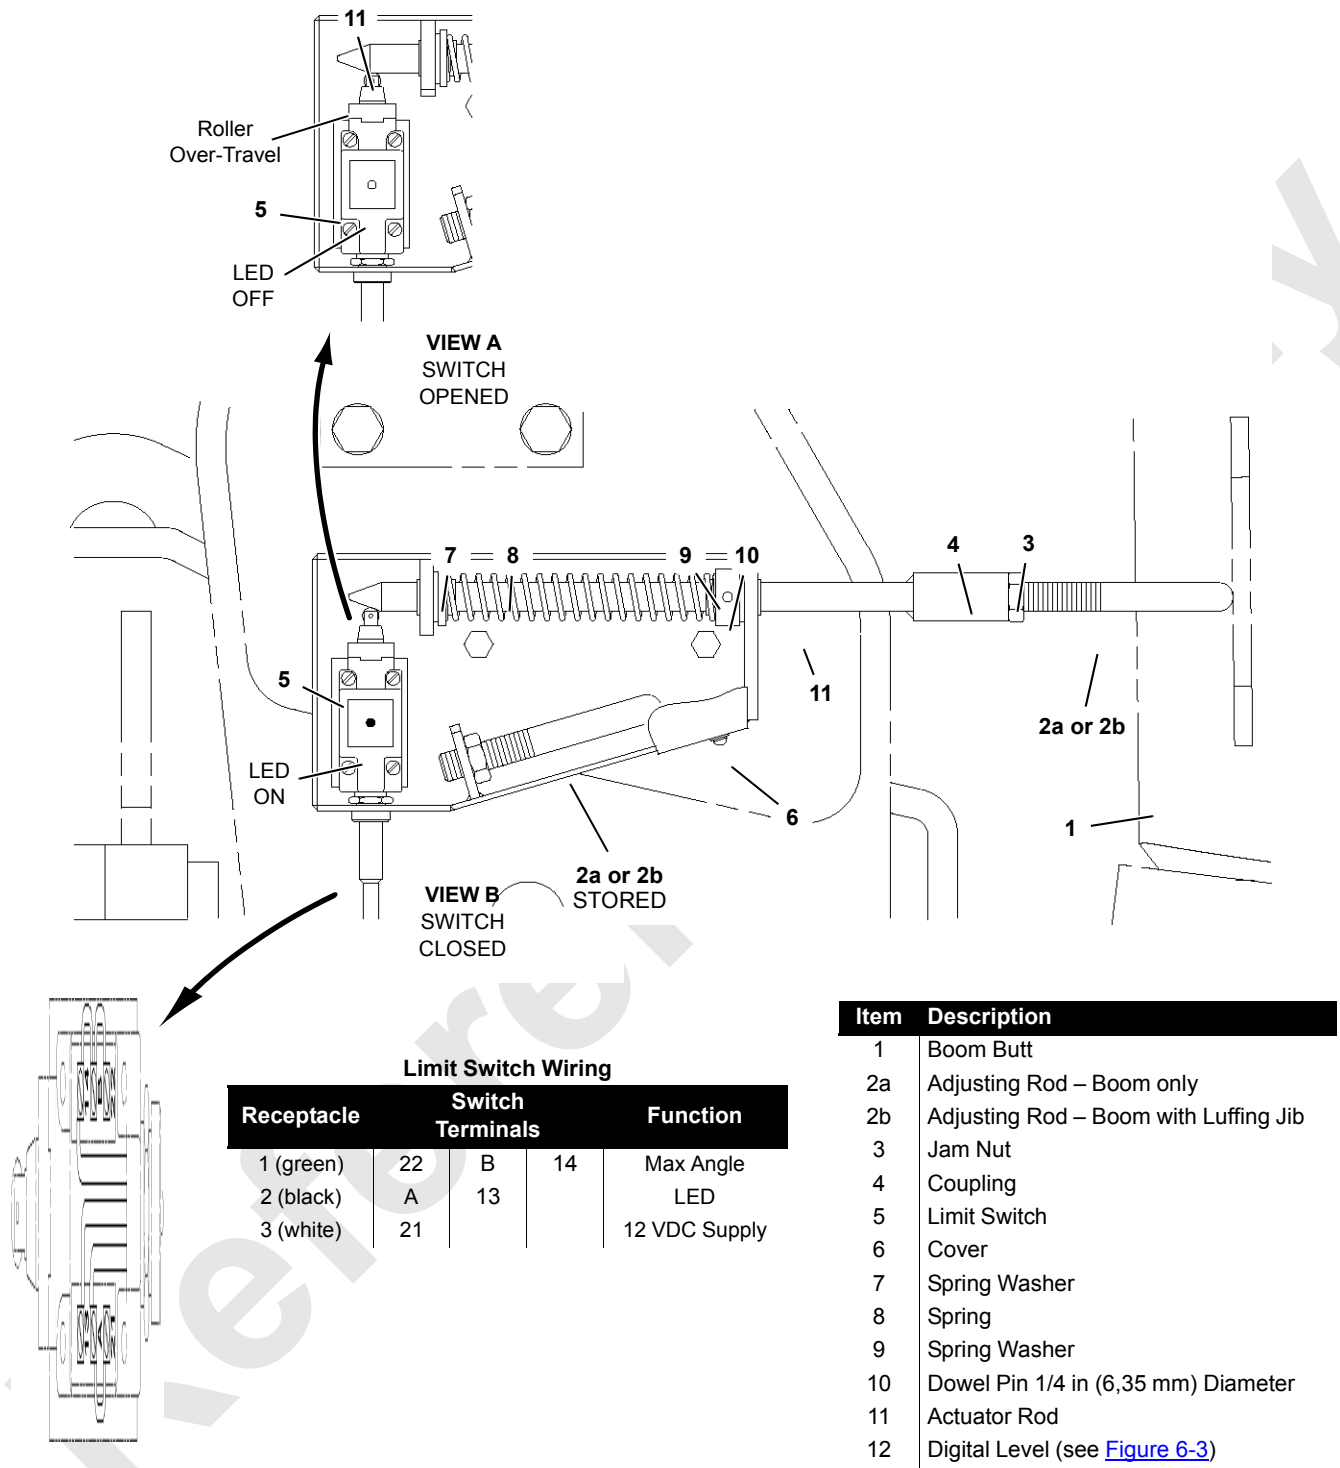

FIGURE 6-2
Boom stop limit switch (5, Figure 6-2) automatically stops the boom and applies the boom hoist brake when the boom is raised to **Angle A** shown in Figure 6-1 and listed in Table 6-1.
See Figure 6-2 for the following description.
2. Have an assistant push the adjusting rod (Figure 6-2) in to trip the boom stop limit switch open.
- See Figure 6-2 for the remaining steps.
- Turn adjusting rod (2a or 2b) all the way into coupling (4).
- Turn adjusting rod (2a or 2b) out against boom butt (1) until limit switch (5) “clicks” open and the LED is OFF (View A).
- Tighten jam nut (3).
See Figure 6-2, View B for the following procedure.